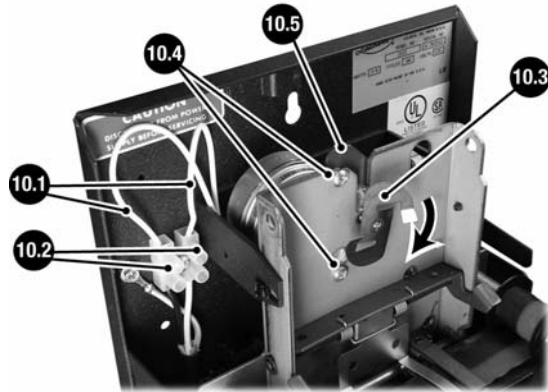

Figure 10
3. **Figure 10** shows a close-up of cam block terminal.
4. Disconnect **Motor Wire Leads** - **Figure 10, 10.1** by turning each **Screw** - **10.2** one-quarter of a turn counterclockwise.
5. Remove the **Motor Clutch** - **Figure 10, 10.3** from its shaft. The shaft has LEFT HAND threads - remove clutch by turning clockwise.
6. Hold **Motor Bracket** - **Figure 10, 10.4** and loosen **Motor Mounting Screws** - **Figure 10, 10.5**. Remove and retain screws and bracket from old motor.
9. Install the new motor wire leads into the cam block terminal - **Figure 10, 10.1** by turning each **Screw** - **10.2** one-quarter of a turn clockwise.